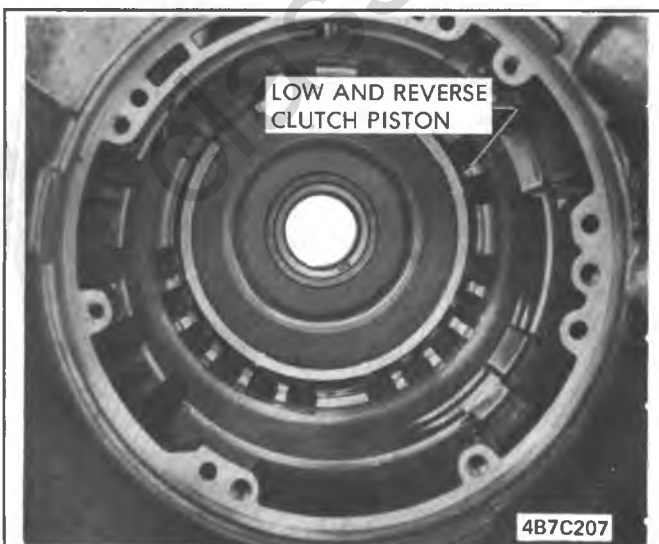

Figure 7A3-114 Installation of Low and Reverse Piston
2. Install reaction carrier to output ring gear needle thrust bearing with lip side face up. See Figure 7A3-117.